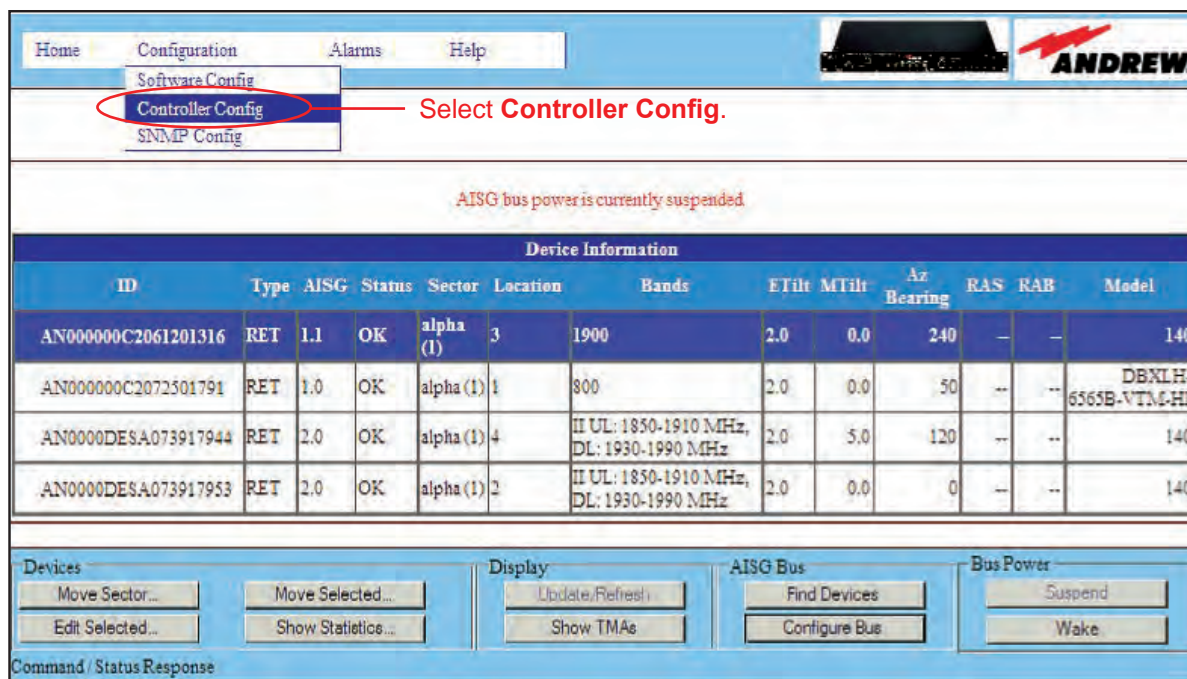

Figure 7-2. Accessing The ATC300-1000/2000 Controller's Configuration Screen.
5. Select **Configuration** → **Controller Config** from the controller's main menu (Figure 7-2).
The controller's web interface password protection can be accessed through the menu option **Configuration** → **Controller Config** (as shown in Figure 7-2).